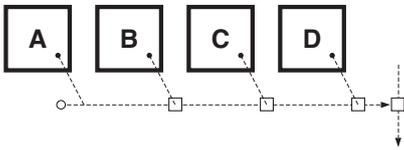

Fig. 18 Plan view of foul drainage
- Where a typical row of adjacent dwellings is connected to a common drain, up to 9 properties may each be fitted with **153.3.4 Automatic Air Admittance Valve** (see page 13) rather than normal soil and vent pipe (SVP) provided that the property at the head of the drain is open vented with a SVP (Fig. 18)